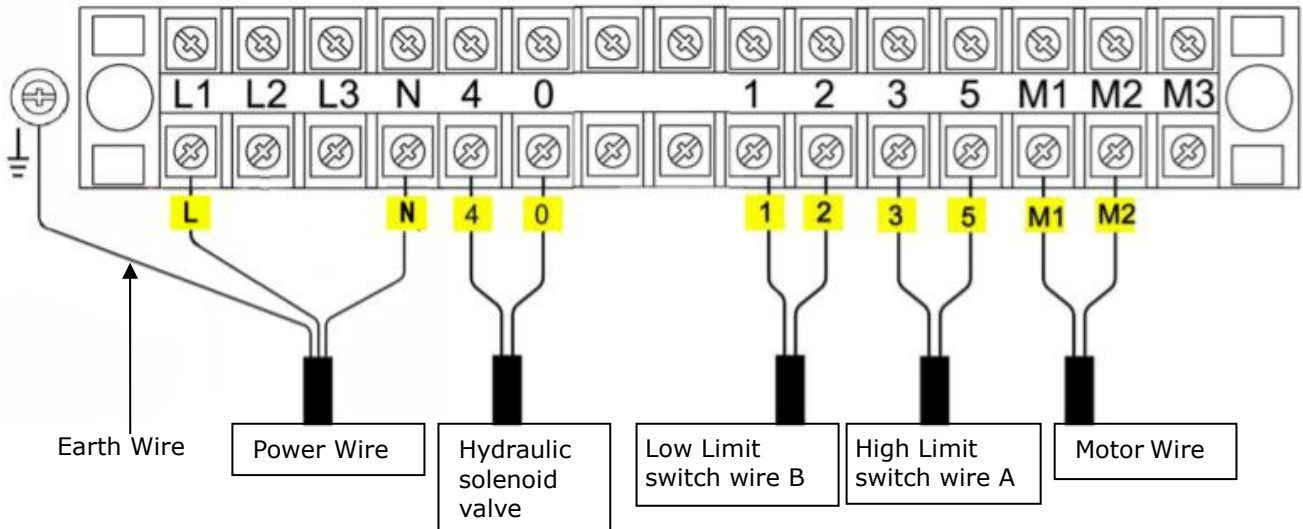

Fig.9
1.1 Connect the power source wire and limit switch according to the Wiring diagram (See Fig.9). When the input power supply are two fire wires, these two fire wires connect terminal L1 and N in separate.